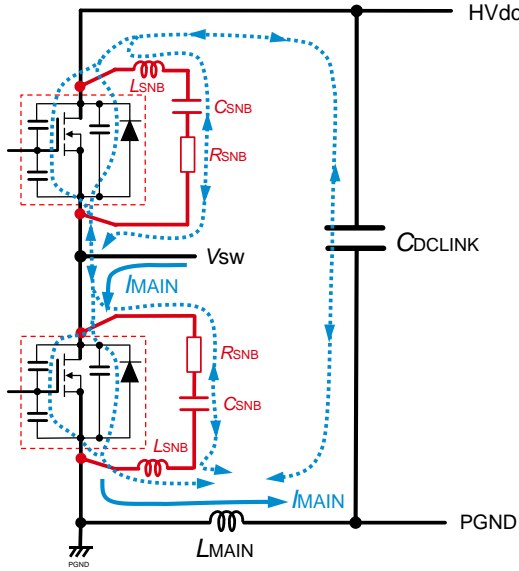

Figure 7 RC snubber
Figure 7 shows the current loops when RC snubber works. C_{SNB} is determined by equation (2) and R_{SNB} is obtained from equation (3).
The V_{DS} ringing could cause unexpected surge voltage on the gate-source voltage V_{GS} and exceeds max limitation of V_{GS} . Because the ringing passes not only through C_{DS} , but also through C_{DG} and C_{GS} , as is shown in Figure 7 and Figure 8. ROHM offers countermeasures against the surge in another application note^{(*)2} but if the measure is insufficient, snubber circuit should be effective solution.